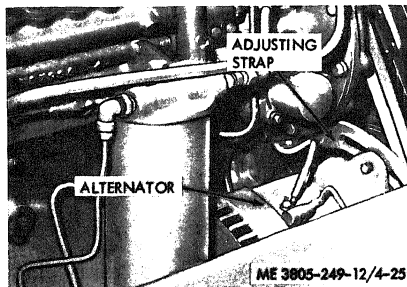

Figure 4-25. Alternator.
a. Removal. Refer to figure 4-25.
(1) Ensure that the master switch is in the off position, and disconnect the battery cables, ground cable first.
(2) Tag and disconnect output and ground wires.